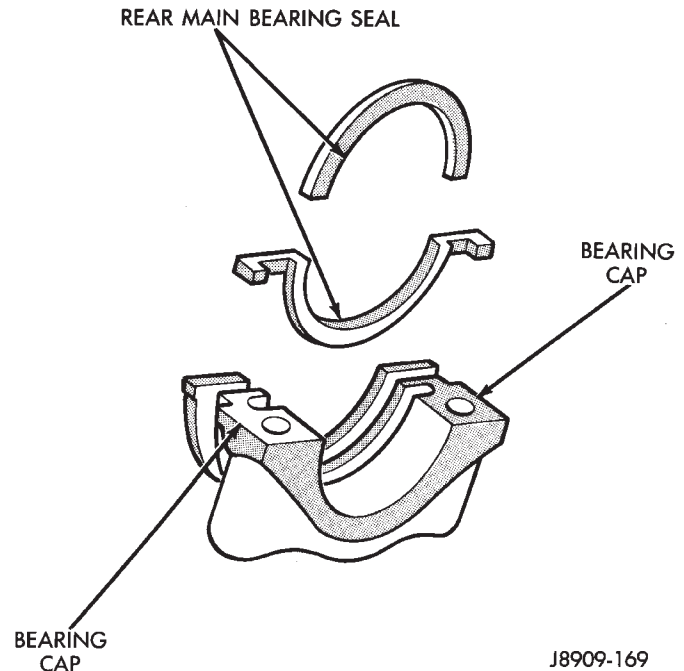
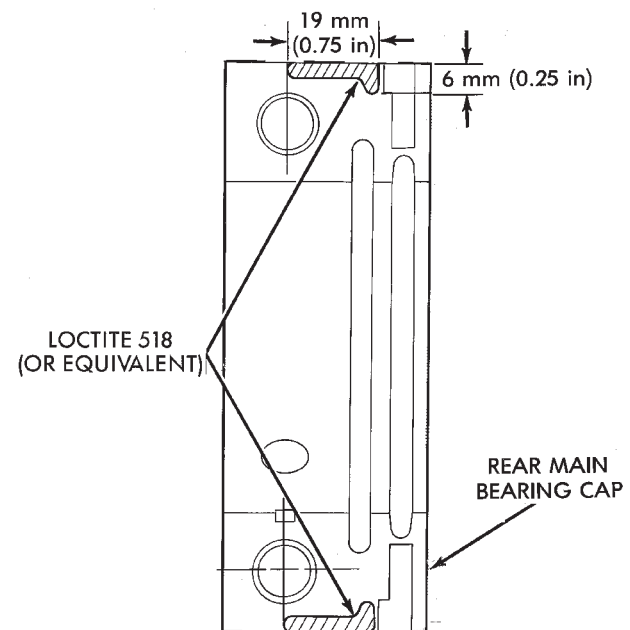

Fig. 59 Rear Main Bearing Oil Seal
Fig. 60 Location of Loctite 518 (or equivalent)
- (1) Wipe the seal surface area of the crankshaft until it is clean.
- (2) Apply a thin coat of engine oil.
- (3) Coat the lip of the seal with engine oil.
- (4) Carefully position the upper seal into the groove in the cylinder block. The lip of the seal faces toward the front of the engine.
- (5) Place the lower half of the seal into bearing cap No.7 (Fig. 59).
- (6) Coat the outer curved surface of the lower seal with soap and the lip of the seal with engine oil (Fig. 59).
- (7) Position the lower seal into the bearing cap recess and seat it firmly. Be sure the seal is flush with the cylinder block pan rail.
- (8) Apply Loctite 518, or equivalent on the rear bearing cap (Fig. 60). The bead should be 3 mm (0.125 in) thick. DO NOT apply Loctite 518, or equivalent to the lip of the seal.
- (9) Install the rear main bearing cap. DO NOT strike the cap more than twice for proper engagement.
- (10) Tighten all main bearing bolts to 108 N·m (80 ft. lbs.) torque.
- (11) Install the oil pan gasket and oil pan.